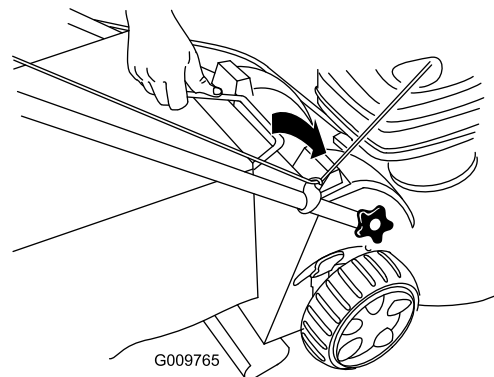
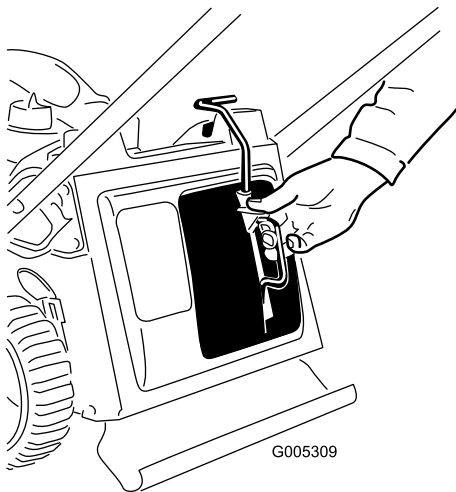

Figure 23
Figure 22
1. Install the mulch plug (Figure 22) or the grass bag (Figure 23) on the machine.